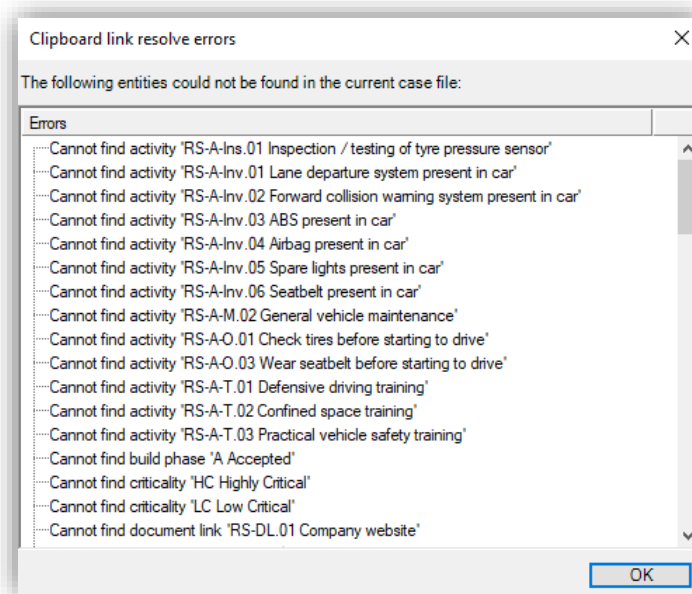

Figure 141 - Clipboard link resolve errors
Note that resolving linked information such as activities on barriers, or effectiveness values on barriers, is done in the same manner as in the entity importer described in the previous section. BowTieXP gives you a warning of the unresolved errors, like in Figure 141 - Clipboard link resolve errors.
6. A screen, like Figure 141 - Clipboard link resolve errors, pops up that shows the copy errors.